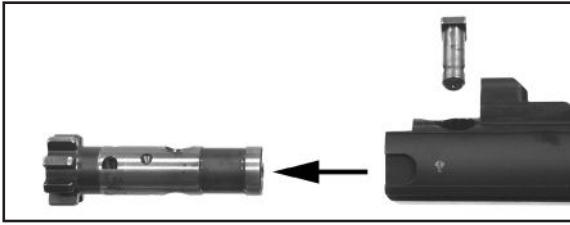

Fig. 44 – Slide the Bolt Head out
- f. Slide the bolt head from the front of the bolt carrier (Fig. 44).